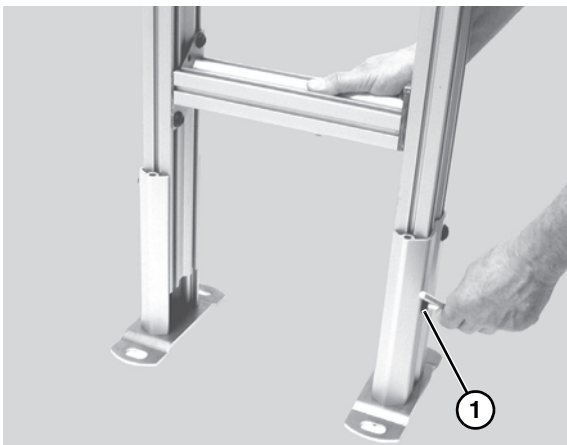

**Figure 17**
- Lower stand leg (**Figure 17, item 1**) until stand edge (**Figure 17, item 2**) is resting on lower nut (**Figure 17, item 3**) flange.